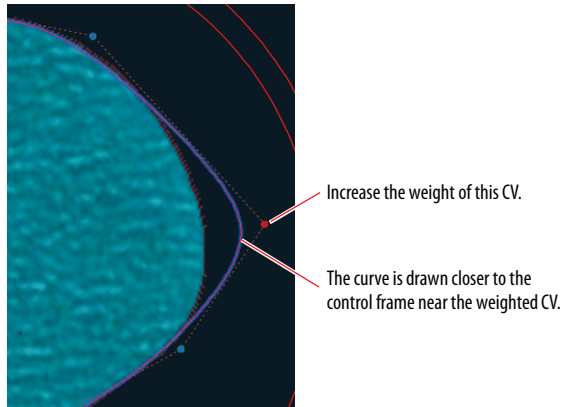

FIGURE 5.14 Adjusting the weight of a CV
10. Type **2**, and press Enter (see Figure 5.14). The spline will get closer to the red CV and its control frame. Type **.5**, and press Enter again; the curve moves farther away from the control frame. Type a value appropriate to your particular situation, and press Enter. We set a weight of 0.75 for the CV shown in Figure 5.14 to push it away from the control frame and more closely match the shape of the lake.